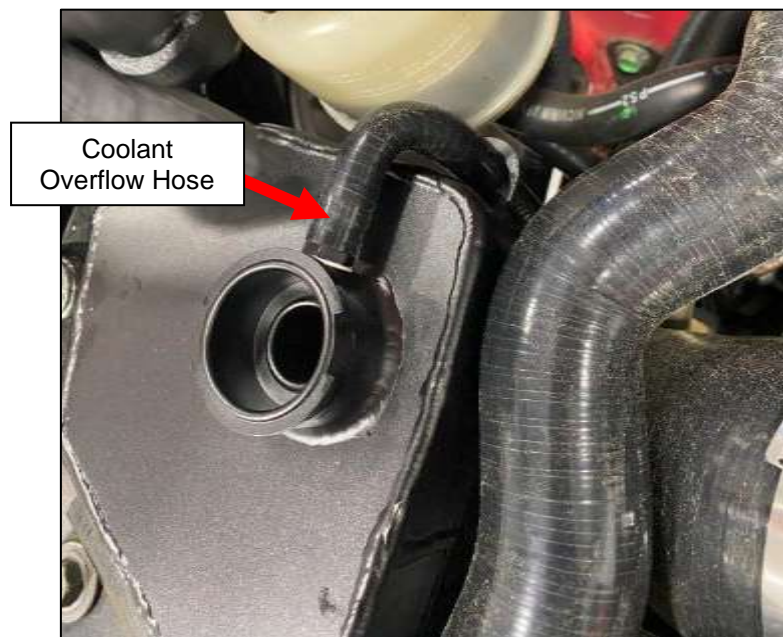

Figure 68
13. Locate the Coolant Overflow Hose (#50). Install it onto the Barb Fitting installed in *Step 4. Figure 68.*